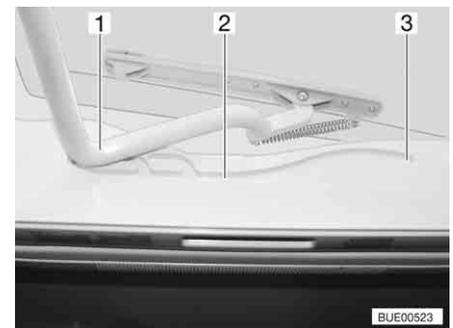

Fig. 117 Heki skylight, guide
- Pull the bar (Fig. 117,1) in the guides (Fig. 117,2) to the rearmost position (Fig. 117,3).
- Use both hands to push the bar (Fig. 117,1) slightly upwards.
- Pull the bar in the guides (Fig. 117,2) to the desired position.